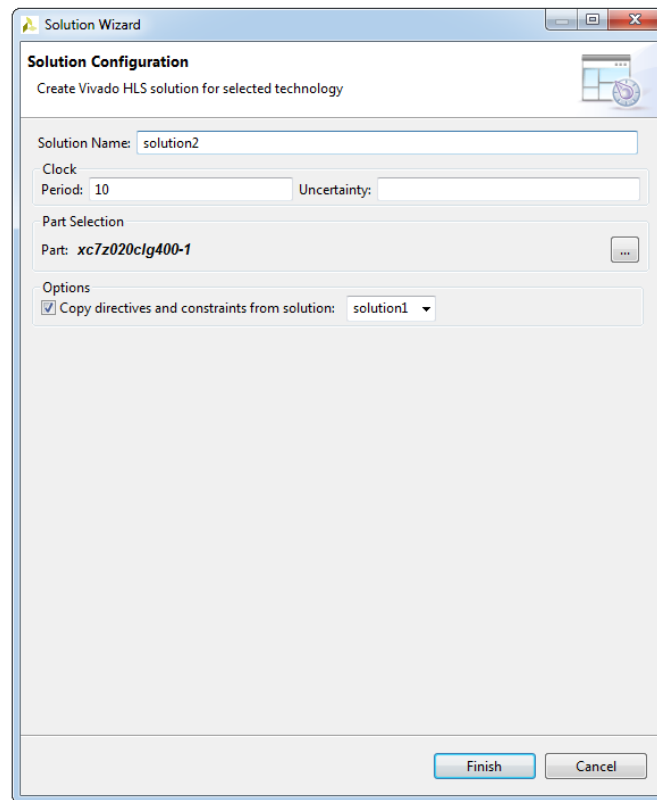

Figure 2.37: Solution Configuration dialog box
2. In the **Solution Configuration** dialog box, leave all parameters unchanged and click **Finish**, as it is shown on the Figure 2.37.